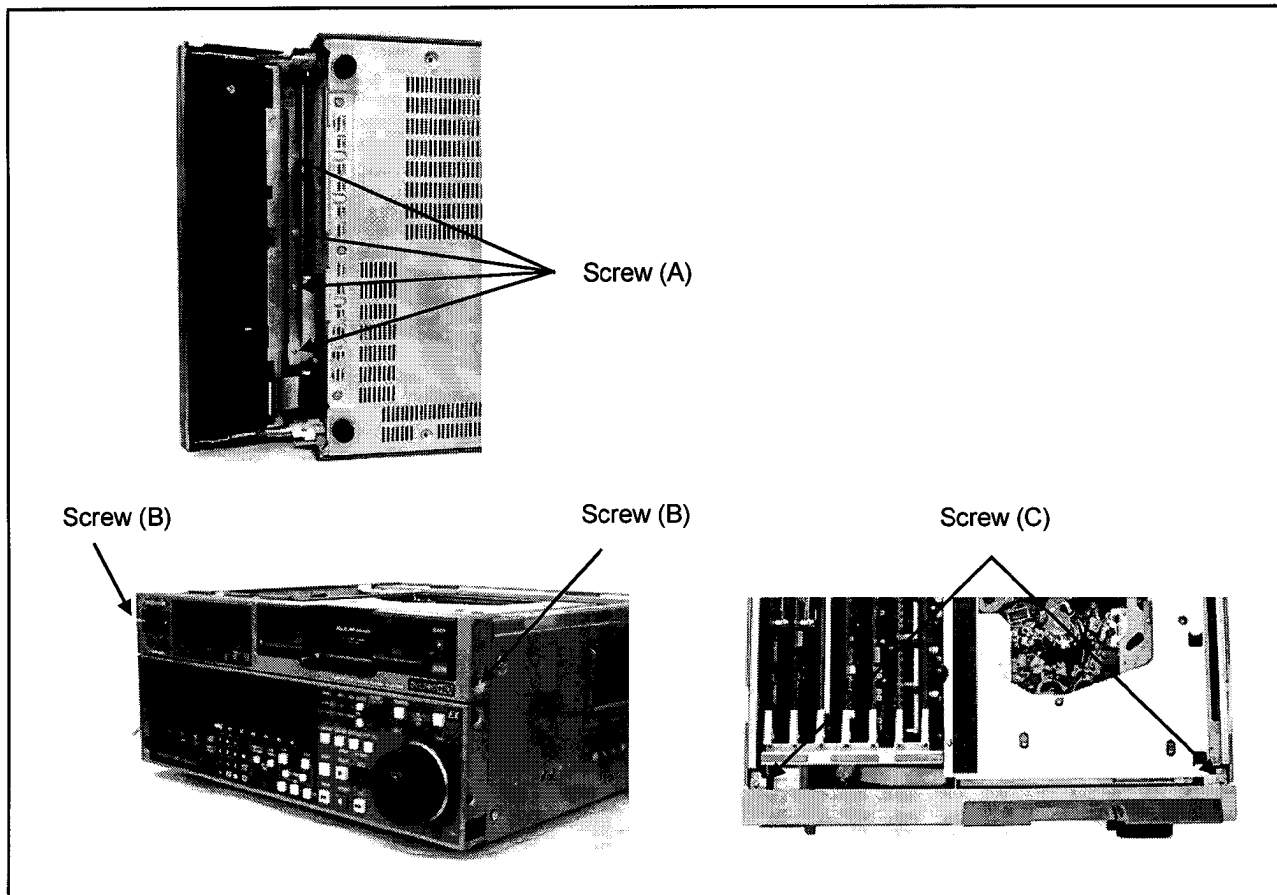

Figure 3-1
2. Open the Lower Front Panel and unscrew the 4 screws (A) as shown in figure 3-1.
3. Unscrew the 2 screws (B) and 2 screws (C) as shown in figure 3-1.